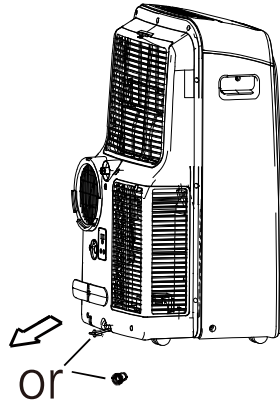

Figure 24
- Remove the plug from the bottom drain outlet, all the water in the bottom tray would drain out (Fig. 24).